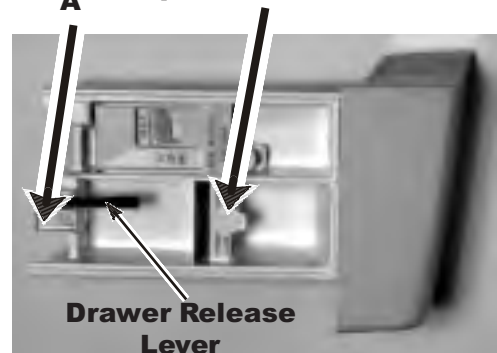

Fig. 3-4
The separator in the Prewash and Main Wash Detergent Compartment can be moved to accommodate either liquid or powdered detergents. (Fig. 3-4)
The drawer release lever (shown here is the normal position) can be installed in alternate position (A) to accommodate stacking a matching dryer on top of the washer. (Fig. 3-4)